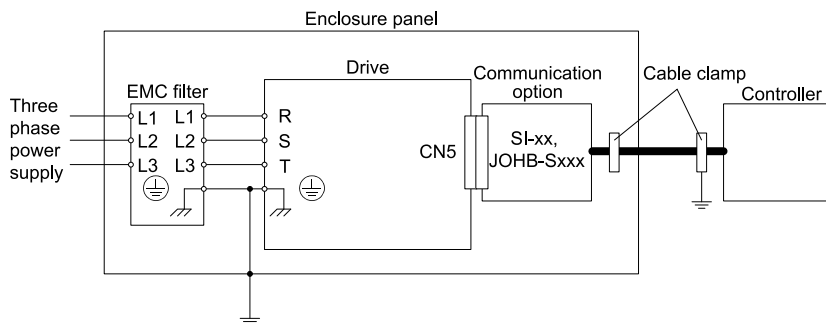

Figure 13.3 Option Installation for CE Compliance: GA500
- Keep wiring as short as possible and ground the largest possible surface area of the shield to the metal panel according to Figure 13.3, Figure 13.4, and Figure 13.4.